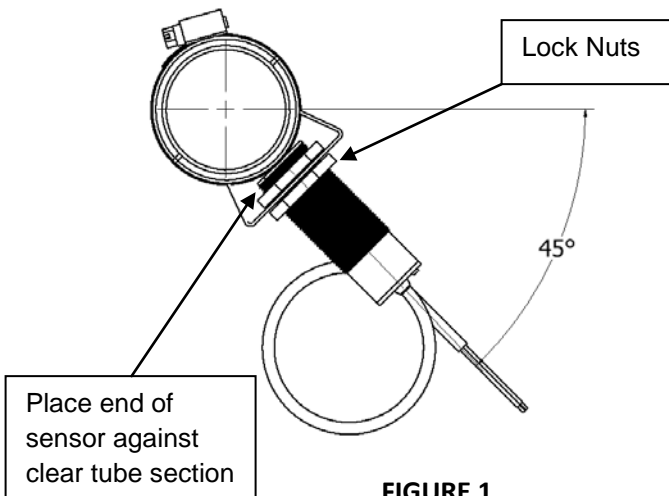
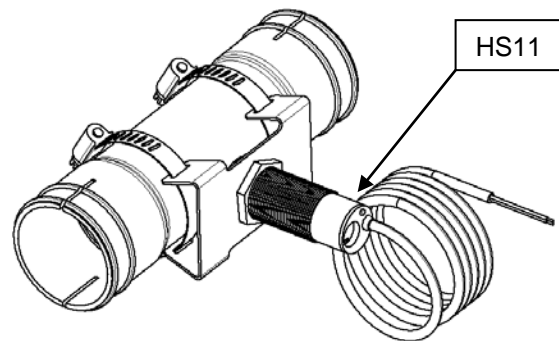

FIGURE 1
FIGURE 2
For installation in a chain disk feed tube, mount sensor to tube bracket as illustrated in **Figure 1** and **Figure 2**. Sensor is supplied with (2) lock nuts. Thread one lock nut onto sensor about 1-2" from the end of the sensor. Place end of sensor through bracket and thread on second lock nut. Position sensor until end of sensors is touching the clear tube. Secure sensor by tightening the lock nuts on each side of the mounting bracket.